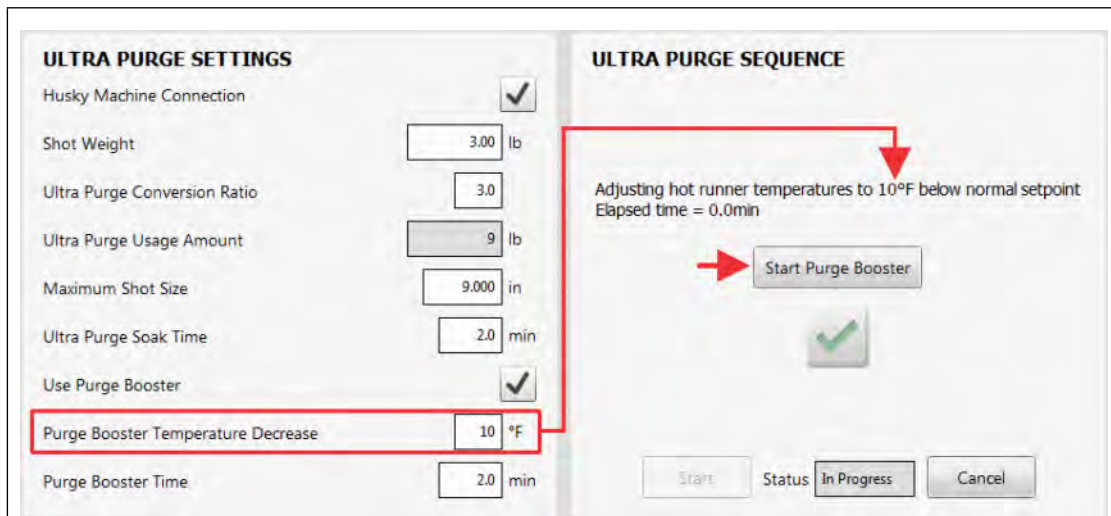

Figure 13-50 Adjust Hot Runner Temperature and Start Purge Booster
18. Adjust the hot runner temperature to x °F (x °C) below the normal setpoint (refer to Figure 13-50).